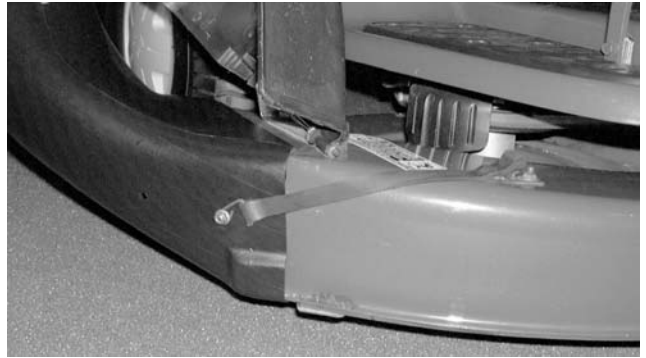

Figure 12-64.
8. Secure the discharge chute by hooking the retainer strap over the clip on the deck. See Figure 12-64.